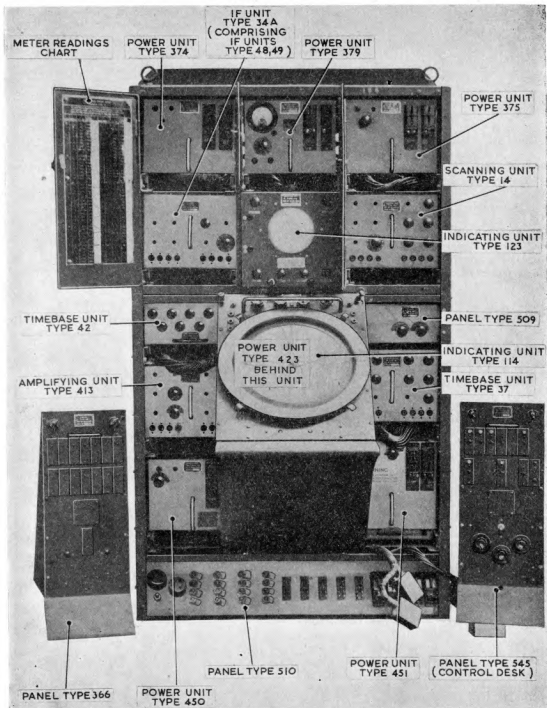

Fig. 38. Console No. 3 (Type 15A)
124. Console 3 (Type 15A), which is illustrated in fig. 38, provides:—
- (1) clamp and insert the tube, a CV1528. Replace the clamp and spinning and fit the base socket. It may be necessary to rotate the tube slightly after fitting in order that the timebase trace may be horizontal.
- (2) Check that the Y deflection links on the underside of indicating unit Type 114 are set for elevation deflection (*Chap. 2, para. 74*).
- (3) Ensure that all the control desk keys are off (*fig. 38*).
- (4) Rotate the control marked BRIGHTNESS at the top of the front panel of indicating unit Type 114 fully counter-clockwise.
- (5) Lower the right-hand control desk to expose panel Type 566 or 509 (*fig. 38*). Set the BLANKING switch on that panel to position 2 (EL SCAN). Set the SYNC switch to L.P.O. (*para. 107 to 109*).
- (6) Replace the control desk and switch on the console, not forgetting to ascertain that the wall switch is on.
- (7) When the equipment has been switched on for at least two minutes, monitor the cathode current of the stabilizer valve in power unit Type 375 with the selector switch on that unit in position 8. The reading should be 0.4 mA. If it is incorrect, adjust it by means of the pre-set potentiometer, ADJUST STABILISER, just behind the front panel.